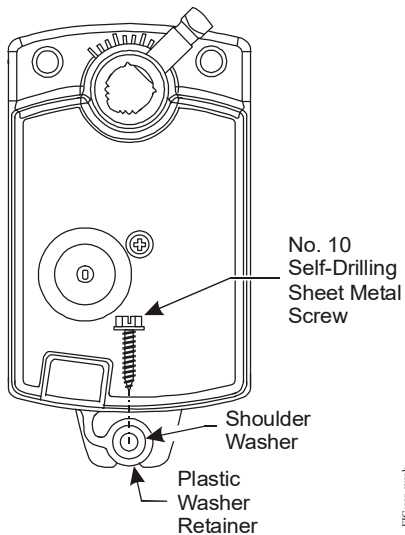

Figure 6: Inserting the screw into the shoulder washer
7. Hold the actuator in place on the damper shaft, and insert the No. 10 self-drilling sheet metal screw through the shoulder washer, as illustrated in Figure 6.